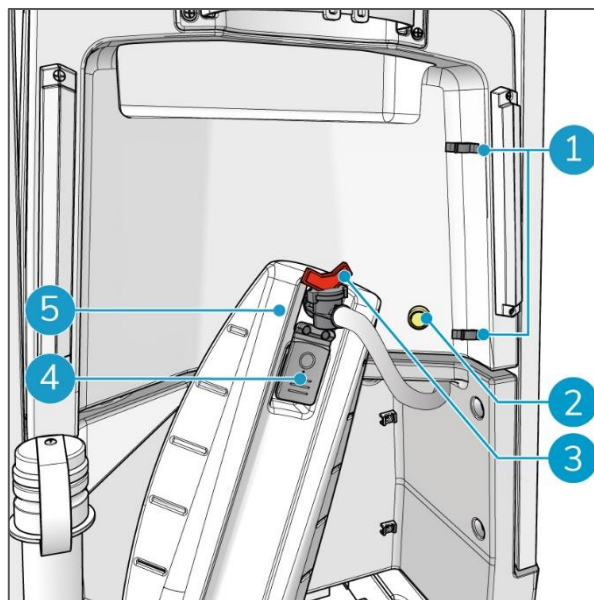

Figure 69
2. Take the filling tube out of the clamps (Figure 69, pos 1).
3. Open the stopper of the i-mop lite (Figure 69, pos 4).
4. Place the filling tube into the tank (Figure 69, pos 5).
5. Open the red valve (Figure 69, pos 3).
6. Push the yellow button (Figure 69, pos 2). The solution will be pumped into the i-mop lite tank.